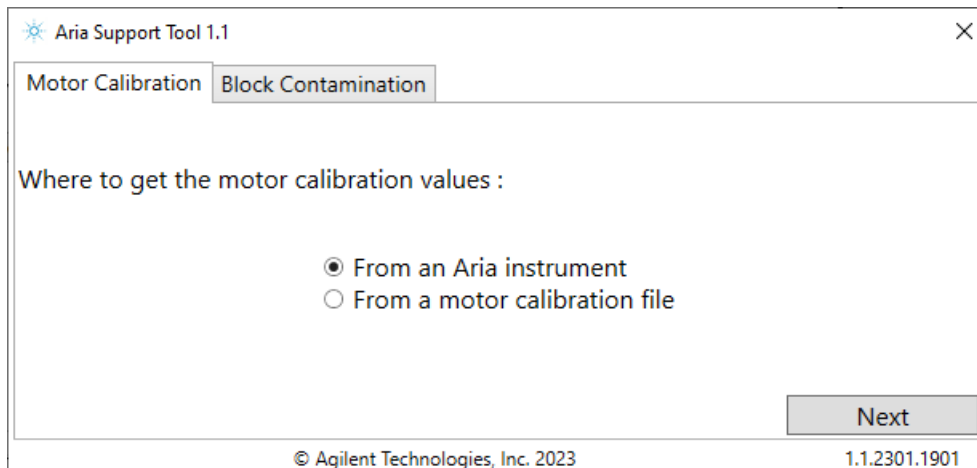

Figure 3 Motor Calibration tab – select **From an Aria instrument**
- 2 Click the Motor Calibration tab. Select **From an Aria instrument**. (See Figure 3.)